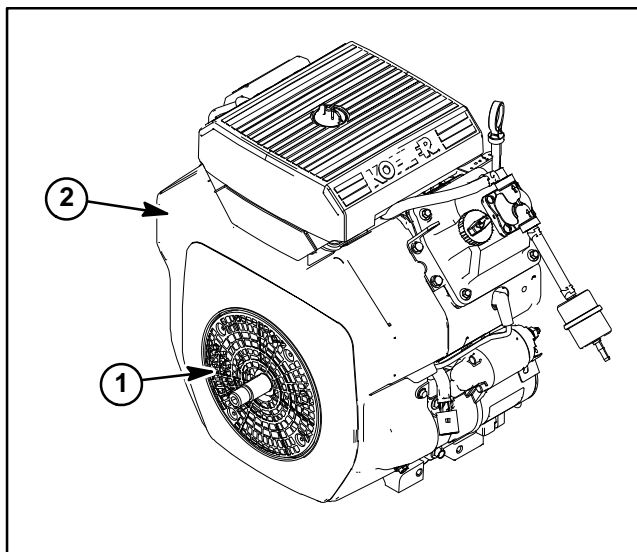

Figure 6
3. Clean debris screen and blower housing of dirt and debris (Fig. 6). Remove screen and housing if necessary.